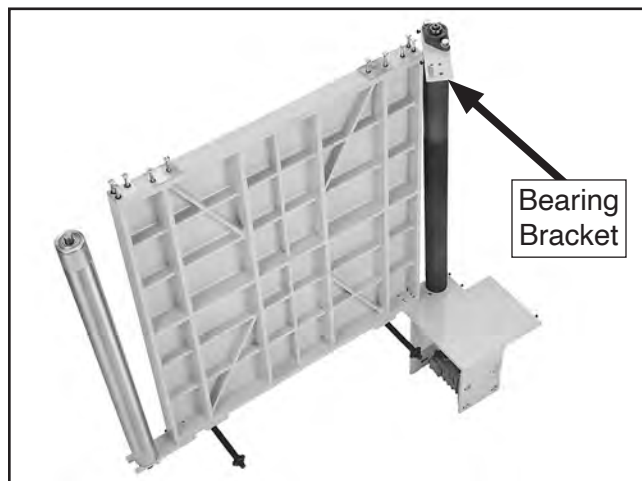

Figure 83. Conveyor belt removed from table.
19. Remove brackets from left side of table and remove conveyor belt (see **Figure 83**).